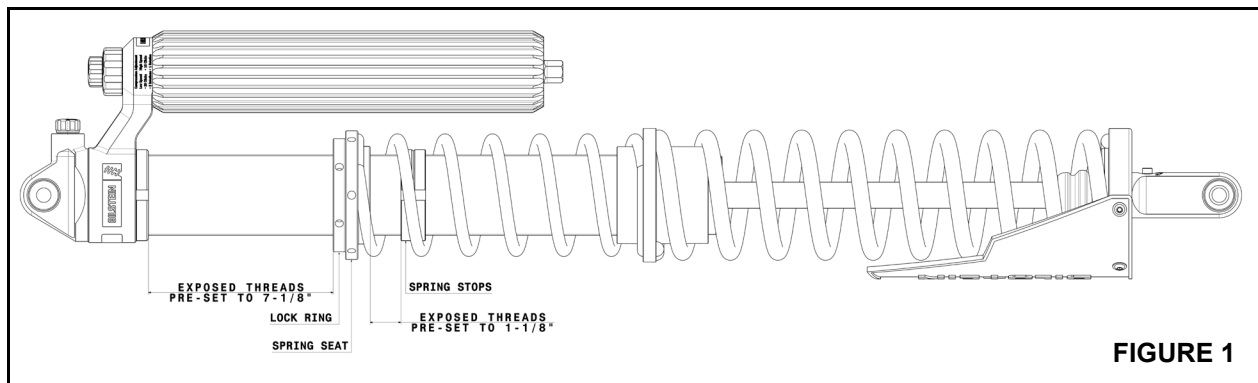

FIGURE 1
- D. The Black Hawk shocks come pre-set to a specific lift height. After installation, if the pre-set lift height is not what is desired, proceed to the next step and refer to Figure 1 for adjusting the lift height.